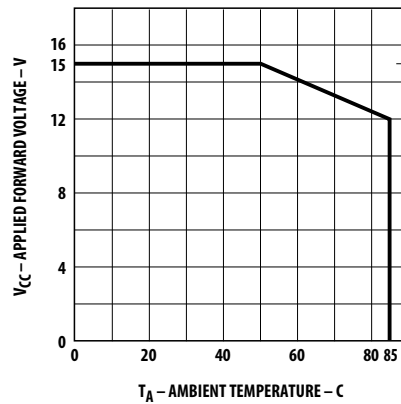

Figure 4. Maximum allowed applied forward voltage vs. ambient temperature  $R\theta_{JA} = 175^{\circ}\text{C/W}$ . 12 volt devices.
3. Derate from TA = 50°C at 0.086 V/°C, see Figure 4.